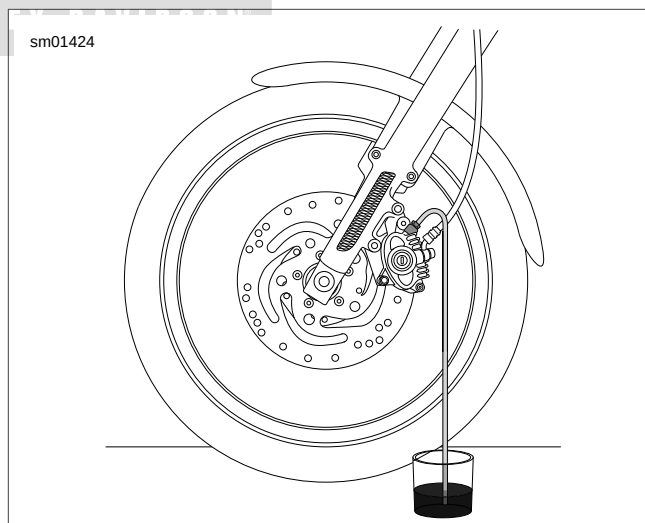

Figure 2-76. Bleeding Hydraulic System
2. See Figure 2-76. Install end of a length of 5/16 in (7.9 mm) ID clear plastic tubing over caliper bleeder valve, while placing free end in a suitable container. Open bleeder valve about 1/2 turn. Pump brake hand lever repeatedly to drain brake fluid. Close bleeder valve.